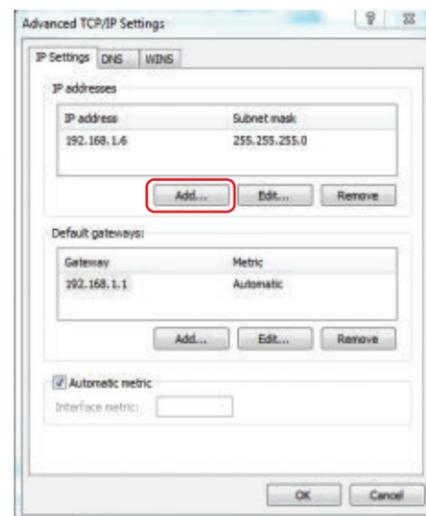

Fig. 6.8
- (2) To add new IP address, click “Add” as indicated in Fig. 6.8.